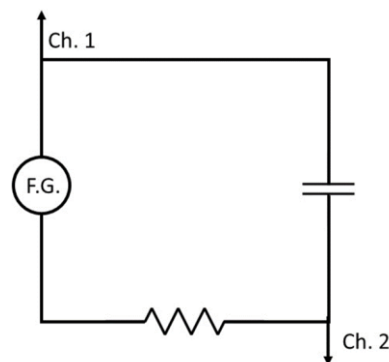

Figure 1  $RC$  Circuit with Frequency Generator
An  $RC$  circuit is a series circuit with a capacitor and resistor in series with a power source, in this case, a Frequency Generator (FG) as shown in Figure 1. When a fully charged capacitor is discharged through a known resistor, with the power source turned off, the voltage drop across the circuit will decay with time. The decay of the electric potential follows the equation
1. Create an  $RC$  series circuit (Figure 1) by installing the electrical connectors from the positive port (red) of each device to the negative port (black) of the next device, moving clockwise around the schematic. Ignore the references to Ch. 1 and Ch. 2 at this time.